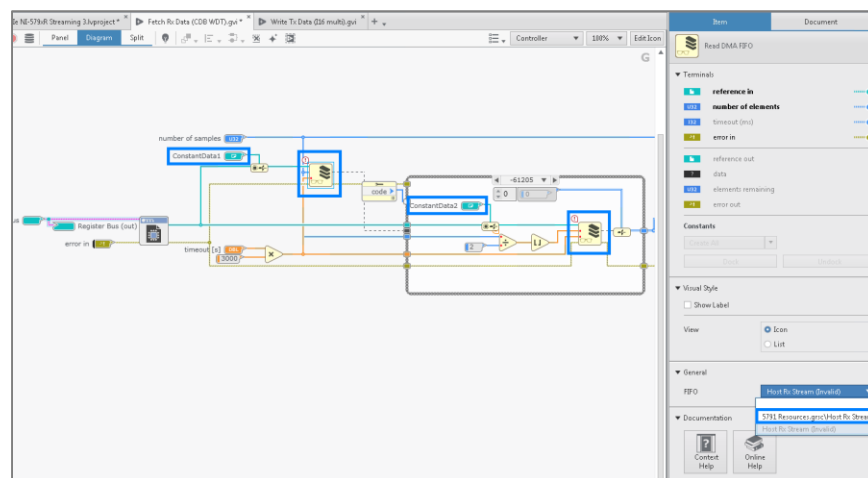

Figure 103: Update FIFOs and References for "Fetch Rx Data (CDB WDT).gvi"
- a. Update the following Read DMA FIFOs as shown in Figure 103.